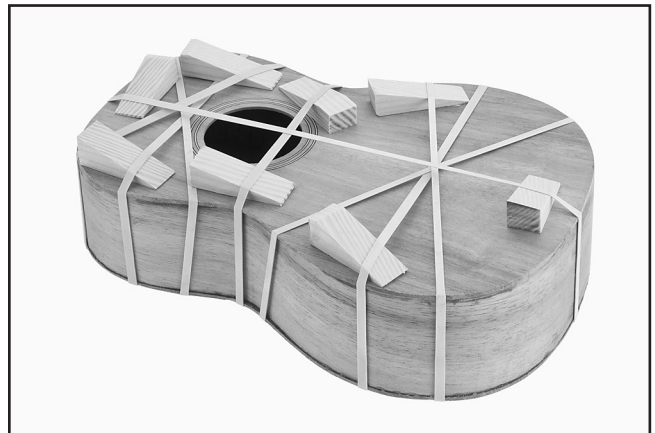

Figure 19. Sound board glued to the body with rubber bands and wedges.
3. Secure the sound board to the body with rubber bands. Use wedges to ensure a tight fit all around the instrument, as shown in **Figure 19**. Allow the glue to dry for the manufacturer's recommended time.